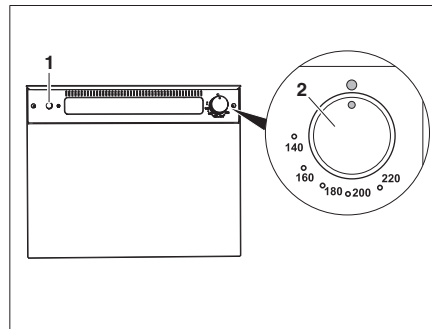

Fig. 262 Gas oven (Thetford)
- Gently press the control knob (Fig. 262,2) and turn left to any position.
- Press the ignition switch (Fig. 262,1) repeatedly until there is a flame.
- Turn the control knob (Fig. 262,2) to "O". The flame fades.